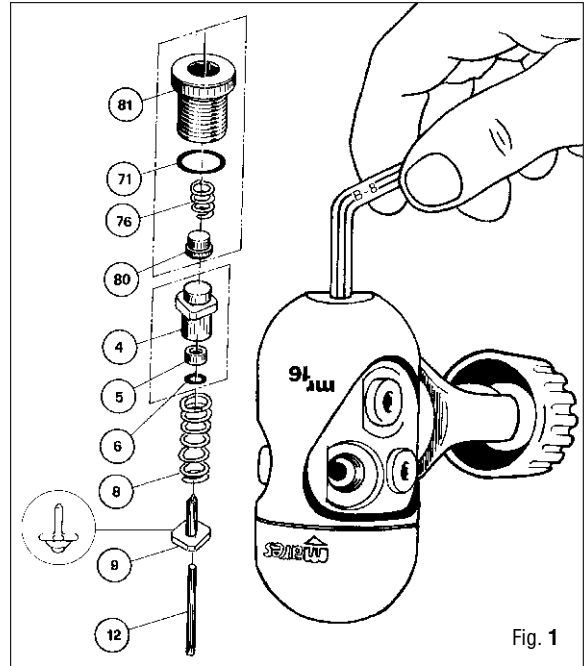

Fig. 1
2. Remove O-ring (71), anti-trail head (80) and spring (76) from cover.
3. Remove poppet assembly (4-5-6), spring (8), first stage poppet (9) and poppet pin (12) from first stage body (1). (Fig. 1)
4. Remove O-ring (6) from poppet retainer.